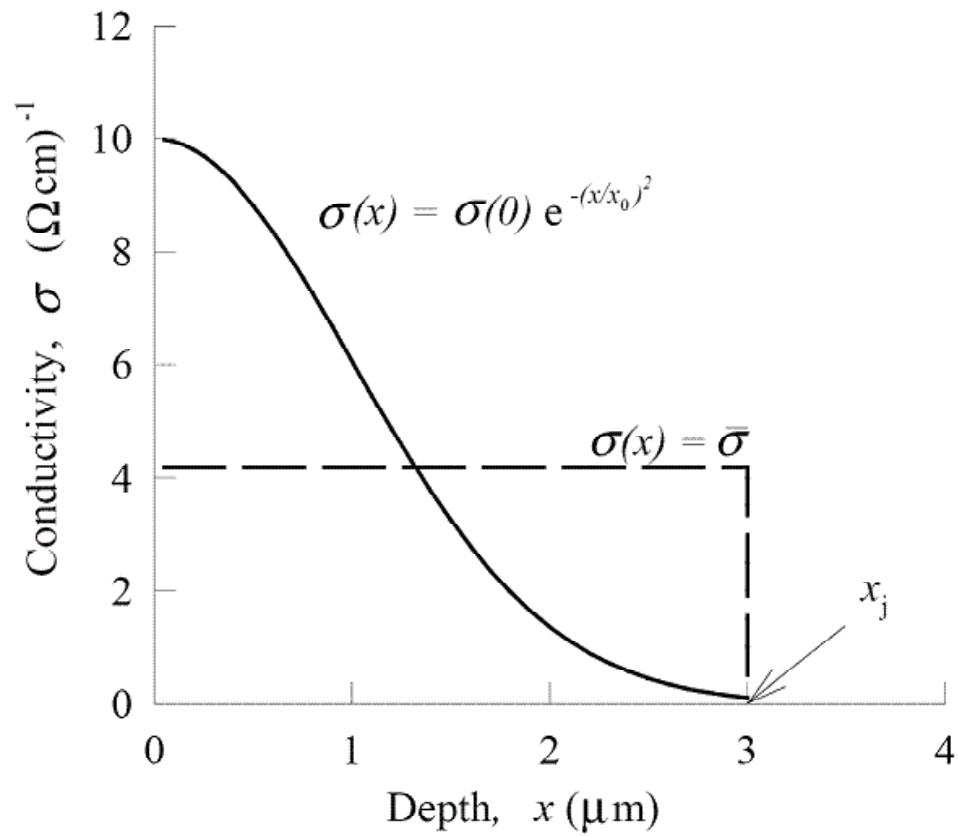

Figure 2: Typical conductivity profile.
- Conductivity varies with depth. See figure 2.
- For fig. 2, using  $x_0 = \sqrt{2}$ , we can find the average conductivity:
and from figure 2  $\sigma_{max} = 10(\Omega - cm)^{-1}$ ,